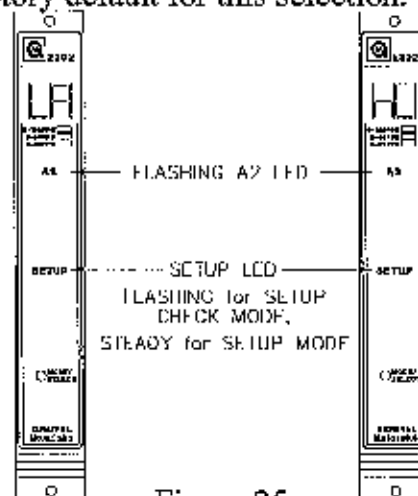

Figure 25
- The **A2** LED on the front panel will be flashing while the latching/non-latching option is displayed (figure 25). The display will indicate the current selection, (**nL** or **LA**). Press the